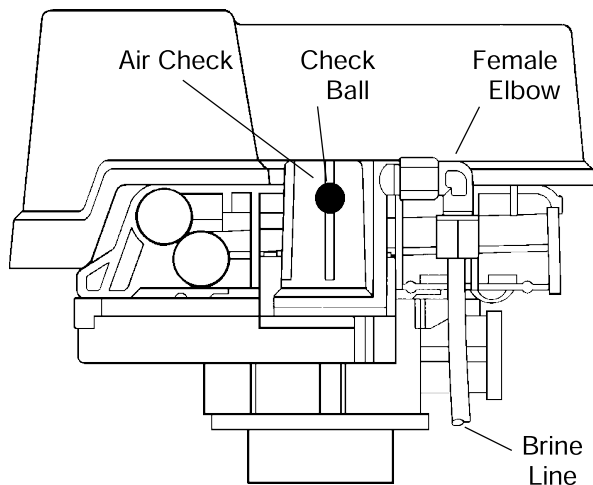

Figure 7
B. Carefully advance pointer knob **COUNTERCLOCKWISE** to center of **FAST RINSE/REFILL** position and hold there until air check (Figure 7) fills with water and water starts to flow through brine line into brine tank. Do not run for more than 2 minutes.